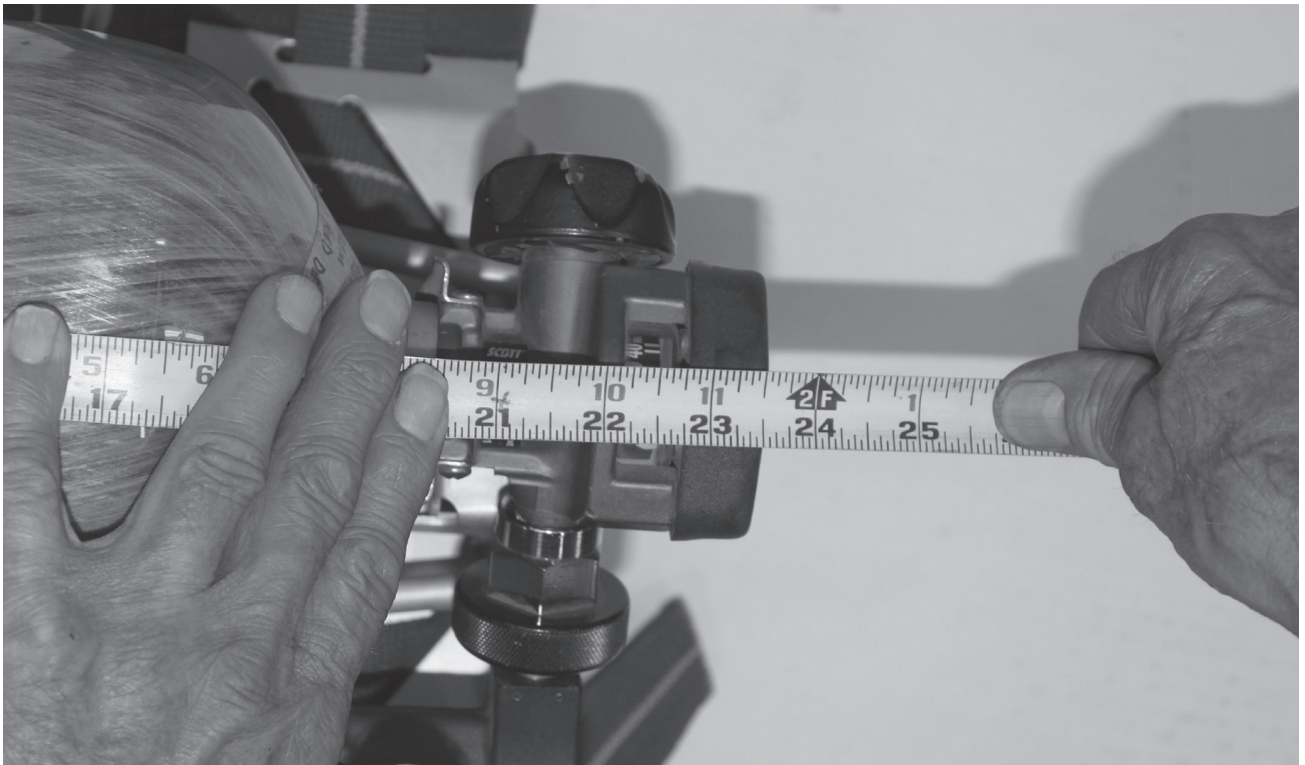

Figure 4
6. Remove the (4) T-27 torx head screws that are holding the Upper Bracket Assembly in place.
7. Reattach the Upper Bracket Assembly in the desired position using the (4) T-27 torx head screws.
8. If using this bracket with a 30 min. 5500 PSI air cylinder, refer to page 19 now. Otherwise, reattach the Bumper Spacer Locator to the Upper Bracket Assembly with the (2) #2 Phillips head screws.
10. Measure the overall length of your desired air cylinder from bottom of the air cylinder valve to top of the air cylinder (*see Figure 4, below*). Add 1/2" to this measurement.